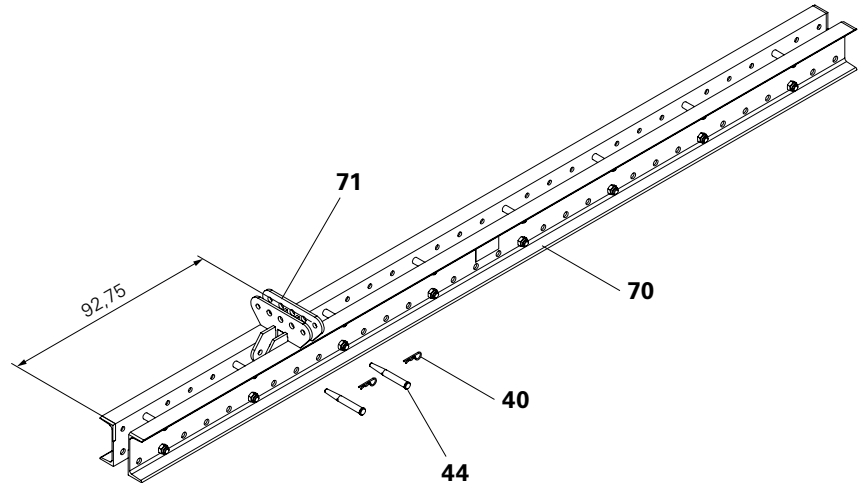

Fig. A1.02
- The Cross Connector can only be mounted at certain positions on the frame. Ensure that all the other components of the truss girder can also be mounted. (Fig. A1.02)
1. For assembling the first Standard Frame (1), lay out two Climbing Rails (70).
2. Fix one Cross Connector (71) to each of the Climbing Rails by means of fitting pins (46) and secure with a cotter pin (41). (Fig. A1.02 + A1.03)
The position of the Cross Connector is the same on all Climbing Rails. (Fig. A1.02)